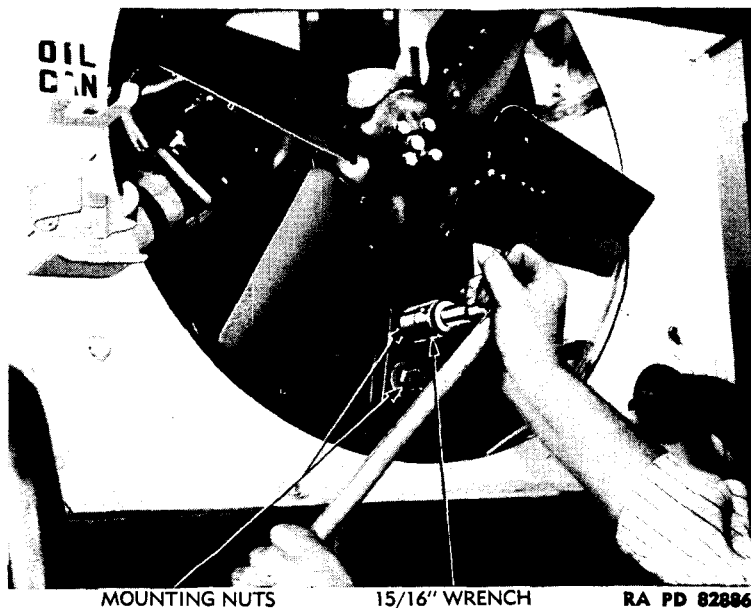

Figure 63 — Removing Fan
a. **Removal.** Make sure master battery switch is "OFF." Open engine compartment rear doors. Remove two nuts from fan bracket mounting studs, and remove fan, fan belt, and bracket (fig. 63).